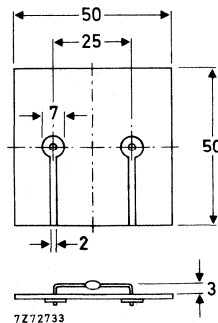

Fig. 2 Mounted on a printed-circuit board.
2. Thermal resistance from junction to ambient; device mounted on an 1,5 mm thick epoxy-glass printed circuit board; Cu-thickness $\geq 40\text{ }\mu\text{m}$; Fig. 2 (see "Thermal model")